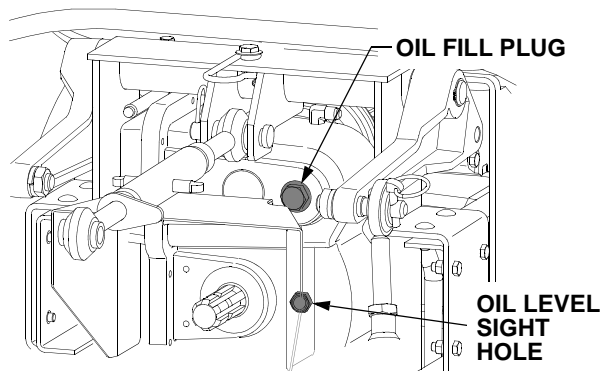
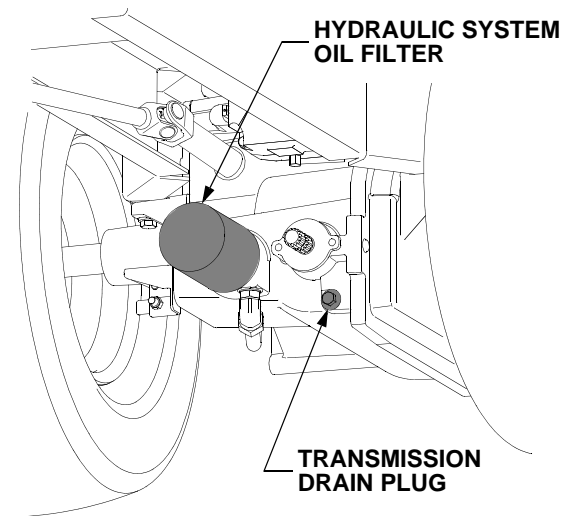

Figure 42
Figure 44
The oil level sight glass is located in the rear of the transmission housing, just to the right of the rear PTO shaft. Refer to Figure 42.
- Locate the oil fill plug on the upper right of the rear of the transmission housing. See Figure 42.
- Position a suitable container below the hydraulic system filter. Refer to Figure 44
- Clean the area around the transmission fill plug to prevent debris from entering the transmission (Refer to Figure 42) and remove the plug.
- Clean the area around the transmission drain plug and the oil fill plug to prevent debris from entering the transmission. Refer to Figure 42 and Figure 44.
- Remove the oil fill plug to help vent the transmission, then remove the drain plug and allow the transmission oil to drain into the container(s). Reinstall the drain plug after draining the oil. Refer to Figure 42 and Figure 44.